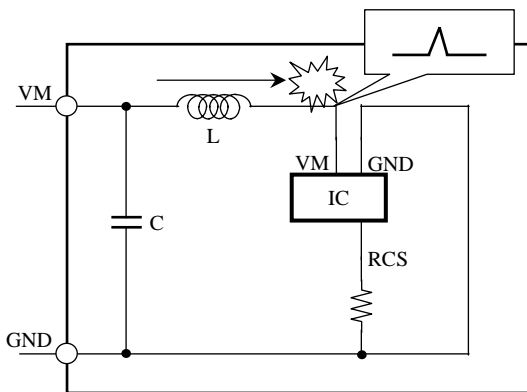
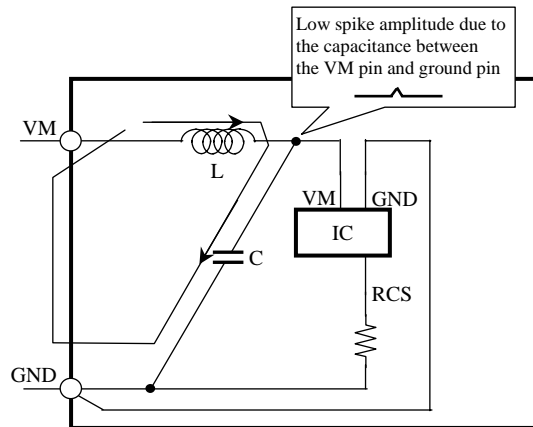

Fig. 4 Deprecated PCB
Fig. 5 Recommended PCB
A high current flows into the line between the VM1 (Pin 1) and VM2 (Pin 15) pins. Therefore, noise is generated with ease at the time of switching due to the inductance (L) of the line, which may result in the malfunctioning or destruction of the IC. (Fig. 4) As shown in the circuit diagram on the right-hand side, the escape way of the noise is secured by connecting a capacitor to the connector close to the VM pin of the IC. This makes it possible to suppress the direct VM pin voltage of the IC. Make the settings as shown in the circuit diagram on Fig. 5 as much as possible.